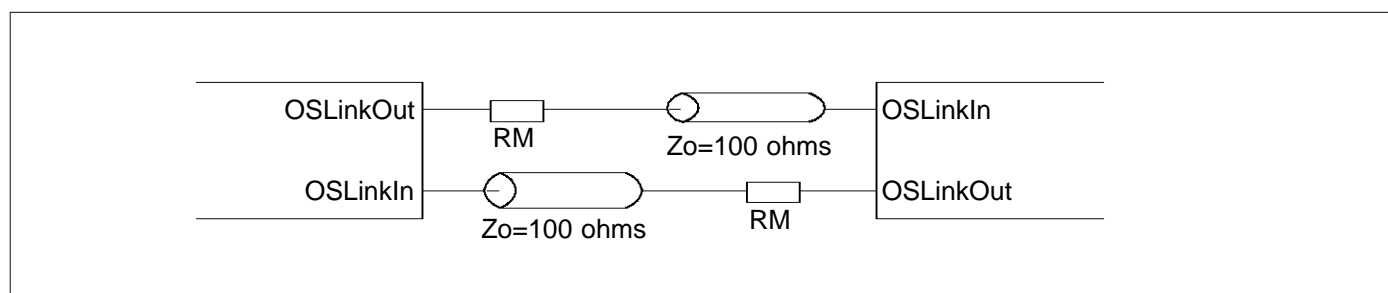
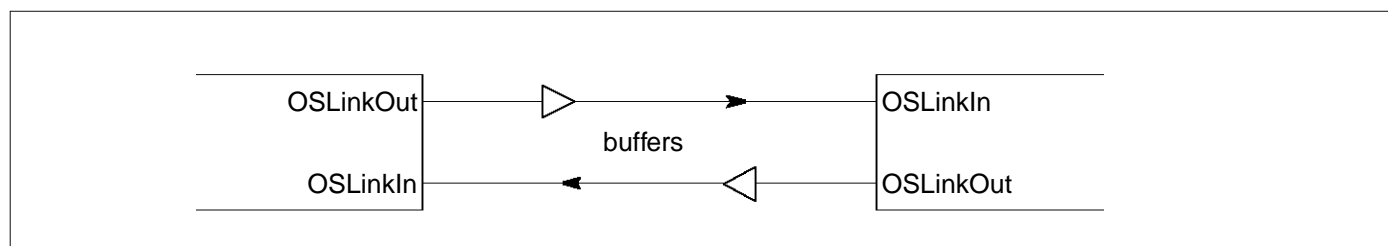

Figure 12.3 OS-Links connected by transmission line
Figure 12.4 OS-Links connected by buffers
Links are TTL compatible and intended to be used in electrically quiet environments, between devices on a single printed circuit board or between two boards via a backplane. Direct connection may be made between devices separated by a distance of less than 300 mm. For longer distances a matched 100 ohm transmission line should be used with series matching resistors (RM), see Figure 12.3. When this is done the line delay should be less than 0.4 bit time to ensure that the reflection returns before the next data bit is sent. Buffers may be used for very long transmissions, see Figure 12.4. If so, their overall propagation delay should be stable within the skew tolerance of the link, although the absolute value of the delay is immaterial.